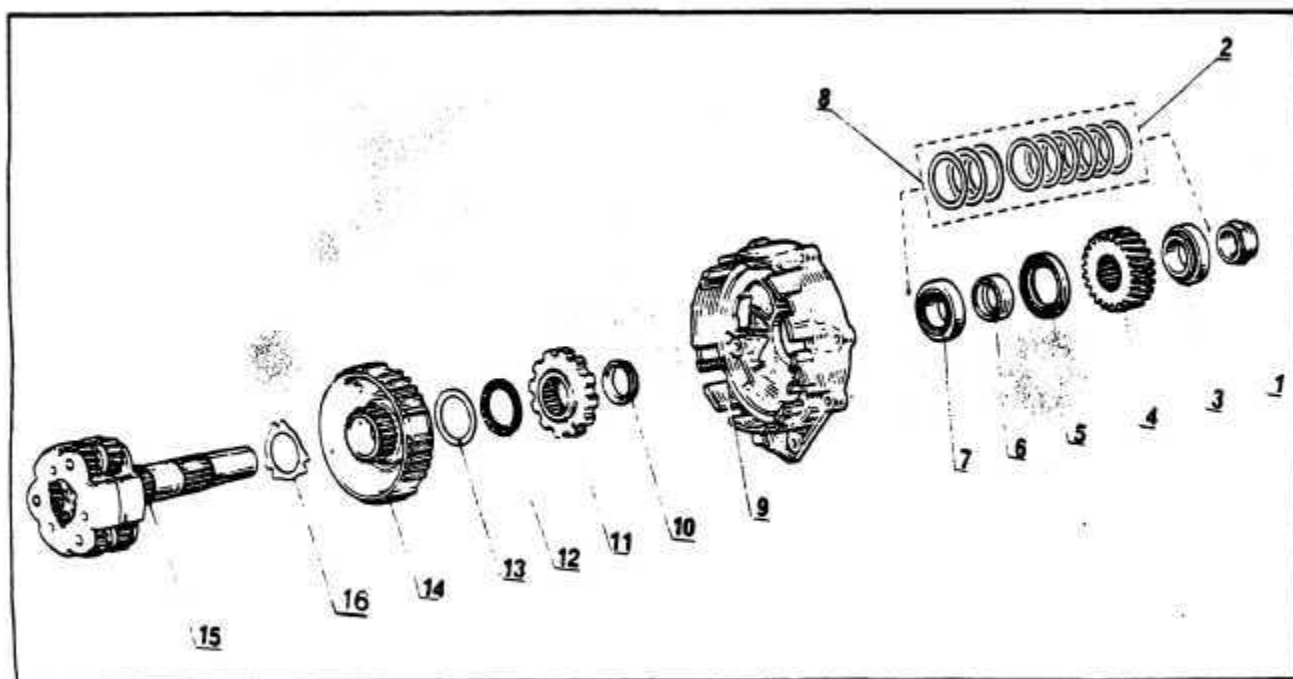

Fig. 71 PLANETARY CARRIER ASSEMBLY
Planetary Gear Carrier — Fig. 71
2. Remove the roller bearing and output gear using a suitable puller. *Fig. 71*
3. Remove the spacer sleeve No. 6 from the carrier shaft and separate the planetary carrier from the housing. *Fig. 71*
4. Remove the spacer No. 10 and park sprocket No. 11 from the carrier shaft. *Fig. 71*
5. Remove the needle bearing No. 12 and washer No. 13 from the carrier shaft. *Fig. 71*
6. Remove the brake hub No. 14 and thrust washer No. 16 from the carrier shaft. *Fig. 71*
7. Remove the seal No. 5 and roller bearing No. 7 from the housing. *Fig. 71*
5. Install the spacer No. 10 on the carrier shaft with its larger diameter facing the park sprocket. *Fig. 71*
1. Lubricate the thrust washer No. 16 with automatic transmission fluid and install on the carrier shaft. *Fig. 71*
2. Install the brake Hub No. 14 on the carrier shaft. *Fig. 71*